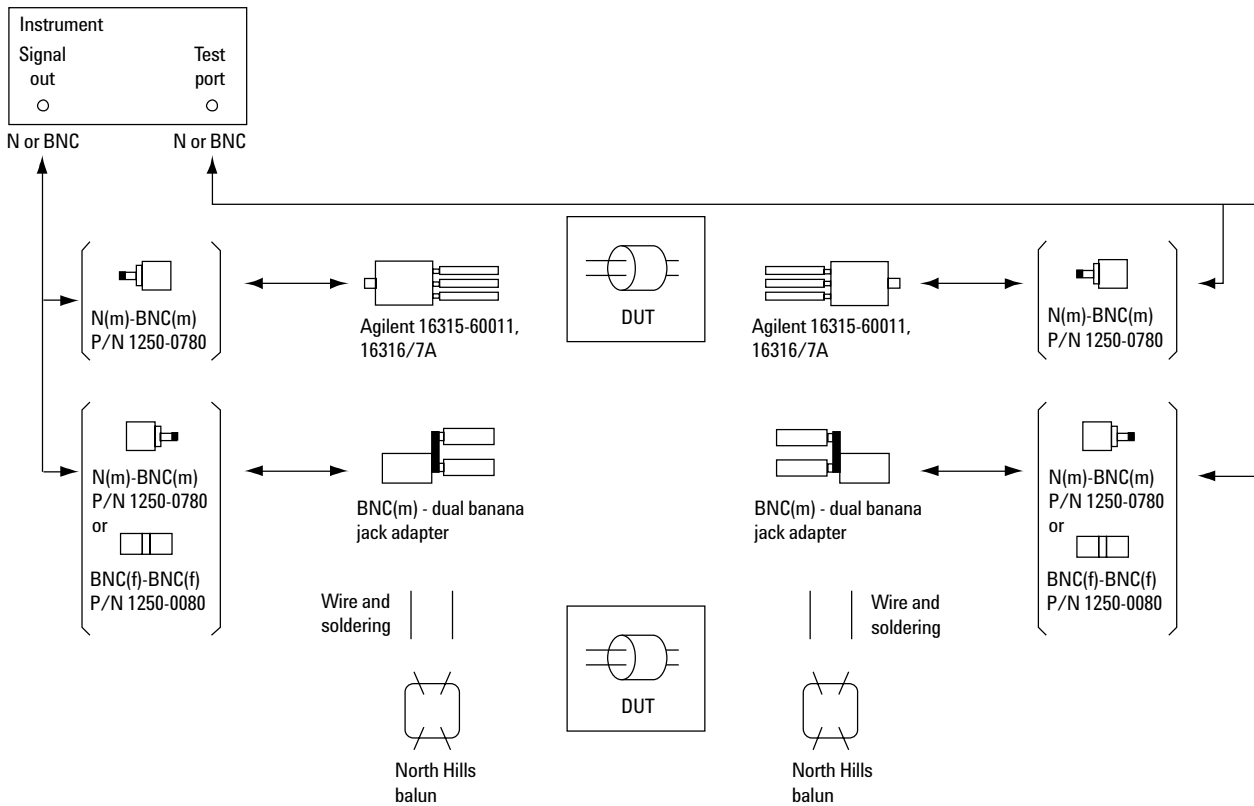

Figure 7. Measurement configuration (3)
Figure 7 shows transmission measurement configuration (3) with a network analyzer.